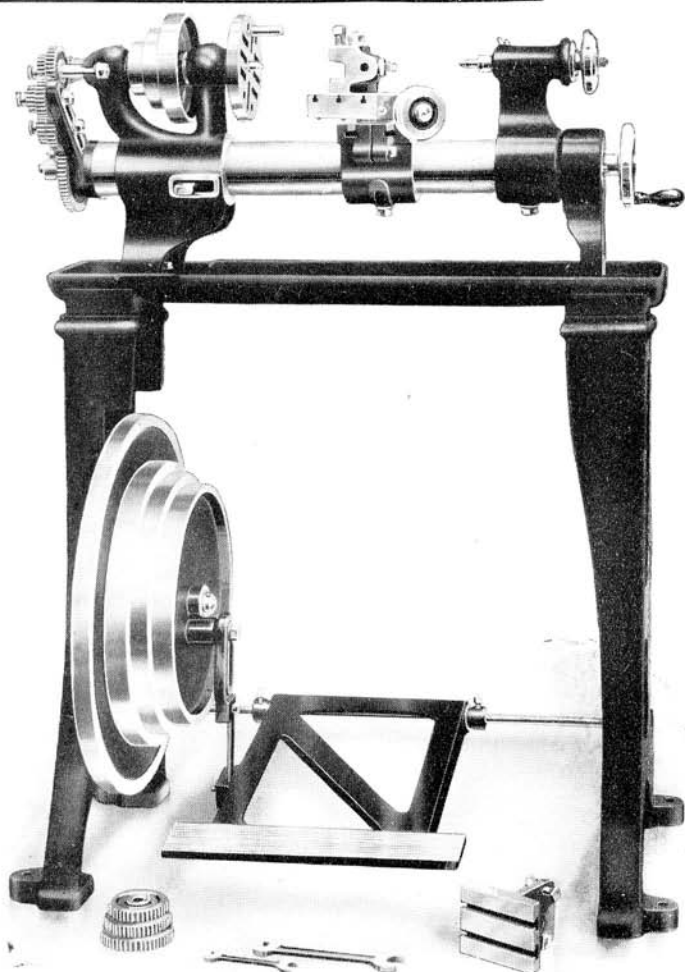

Fig. 2—4-in. Lathe, complete on Stand, with treadle drive.
Fig. 2.—Grip piston by spigot. Turn over the top, and face end. Turn grooves for rings. Bore through bosses to size at (A). (Note:—This ensures that the final facing operation will leave the bosses even in relation to the centre of the piston.) Before removing from chuck, scribe a line with a fine pointed tool round the piston at B—C, and another line at D—E. This will give the exact location of the gudgeon pin.